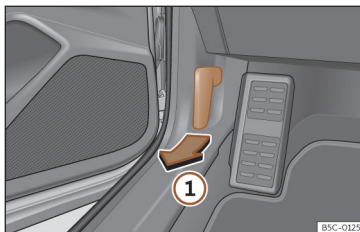

Fig. 208 Release lever in the driver's footwell area.
- Open the door and pull the lever that is underneath the instrument panel >>> **Fig. 208** ①.